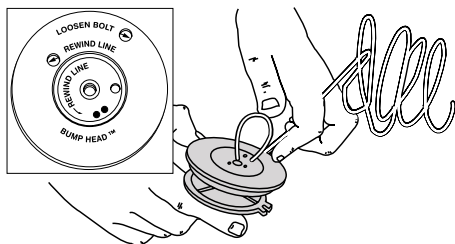

Fig. 32
6. Take approximately 25 feet (7.6 m) of new trimming line, loop it into two equal lengths. Insert each end of the line through one of the two holes in the inner reel (Fig. 32). Pull the line through the inner reel so that the loop is as small as possible.